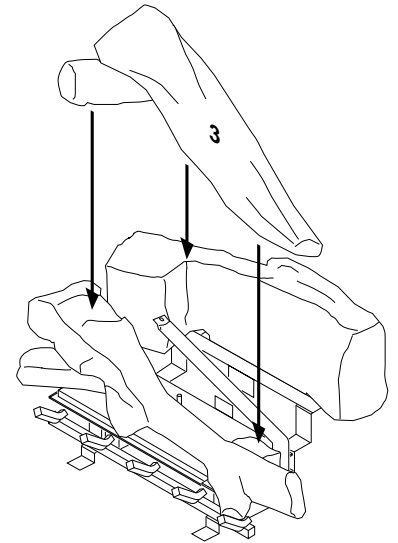

Figure 51 - Installing Log Assembly No. 3
3. Place log #3 (crossover assembly) onto the notched out section of log #2. Log #3 rests on the back portion of front log and in the crook of back log (see Figure 51).